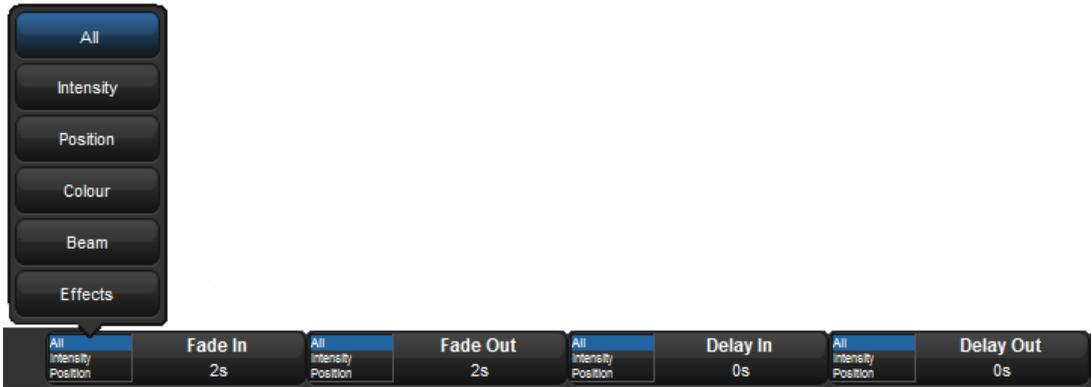

Figure 13.5. Selecting Parameter Types from the Wheels Toolbar
4. Click on Fade In, Fade Out, Delay In or Delay Out and select a parameter type; see *Figure 13.5, "Selecting Parameter Types from the Wheels Toolbar"*.